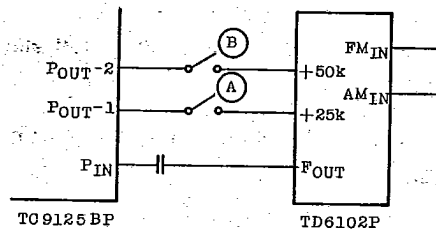

Fig. 7
3. Connections for performing seven kinds of IF fine adjustments in Fig. 7 are as shown in the table below.